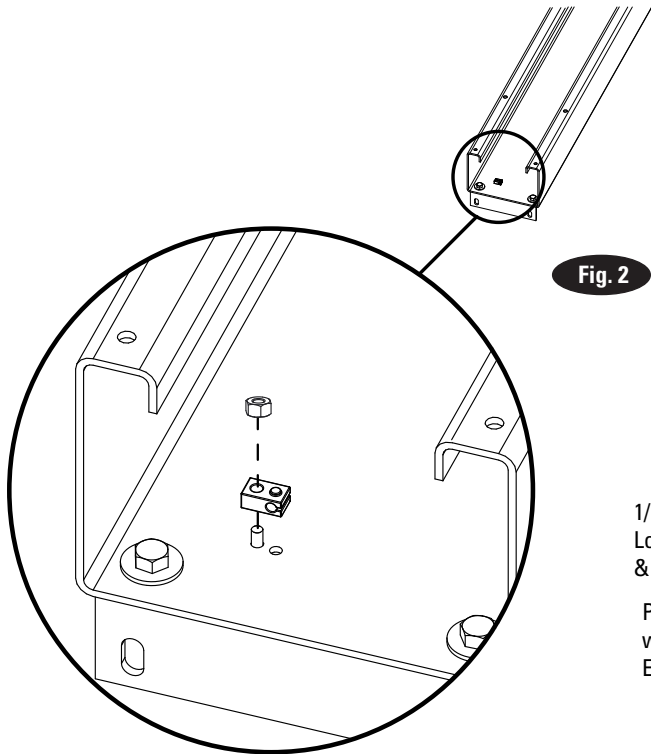

Fig. 2
2. Latch Cable Guides: Install the latch cable conduit guide brackets to column using (1) 1/4"-20NC x 1" HHCS and 1/4"-20NC Flanged Locknut. It should go through hole nearest the edge as shown, Fig. 2. For extension please note paragraph 4.